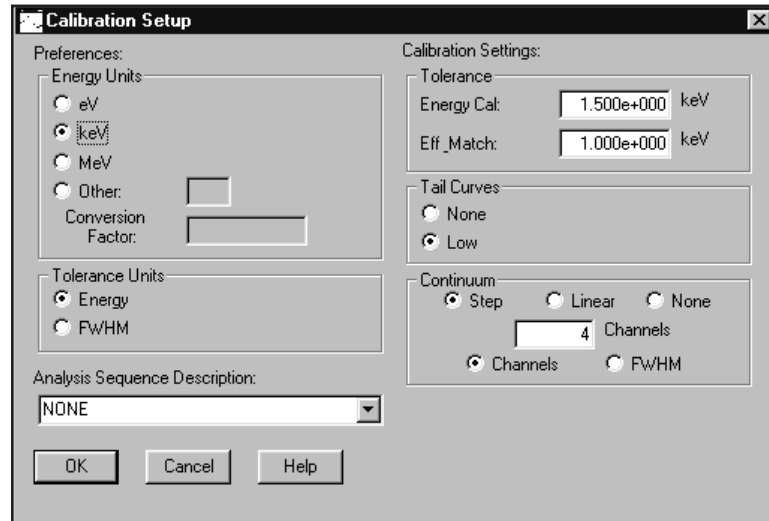

Figure 42 Calibration Setup
**Setup** displays a dialog screen (Figure 42) which allows you to select preferences and calibration settings to be used throughout the calibration and analysis processes.